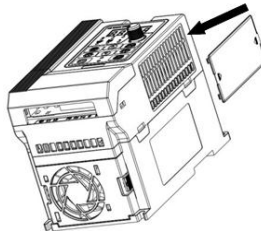

Fig.3-4 Dust cover installation and removal
- a. Install dust cover: The dust cover shown in Fig3-4 parallel to the housing assembly (No cock around is installed) .